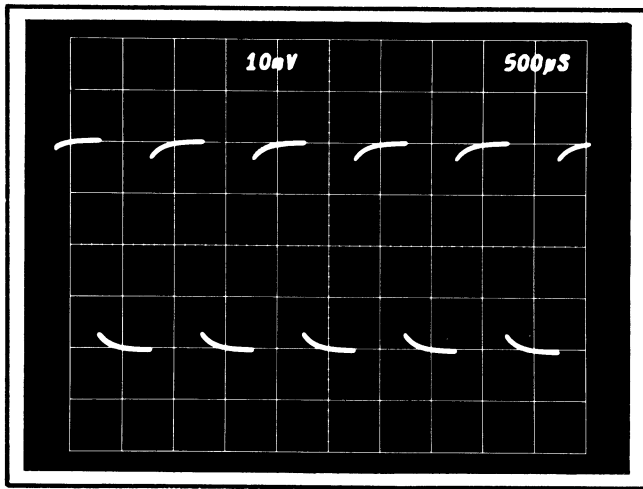

Fig. 5-2. Measurement of the probe undershoot response to a 1 kHz square wave.
2. Check—Rolloff or undershoot must equal or exceed 7.5% of a 4 division square wave or 0.3 divisions. See Fig. 5-2. This verifies that the probe compensation adjustment will compensate to a vertical amplifier input capacitance of 15 pF.